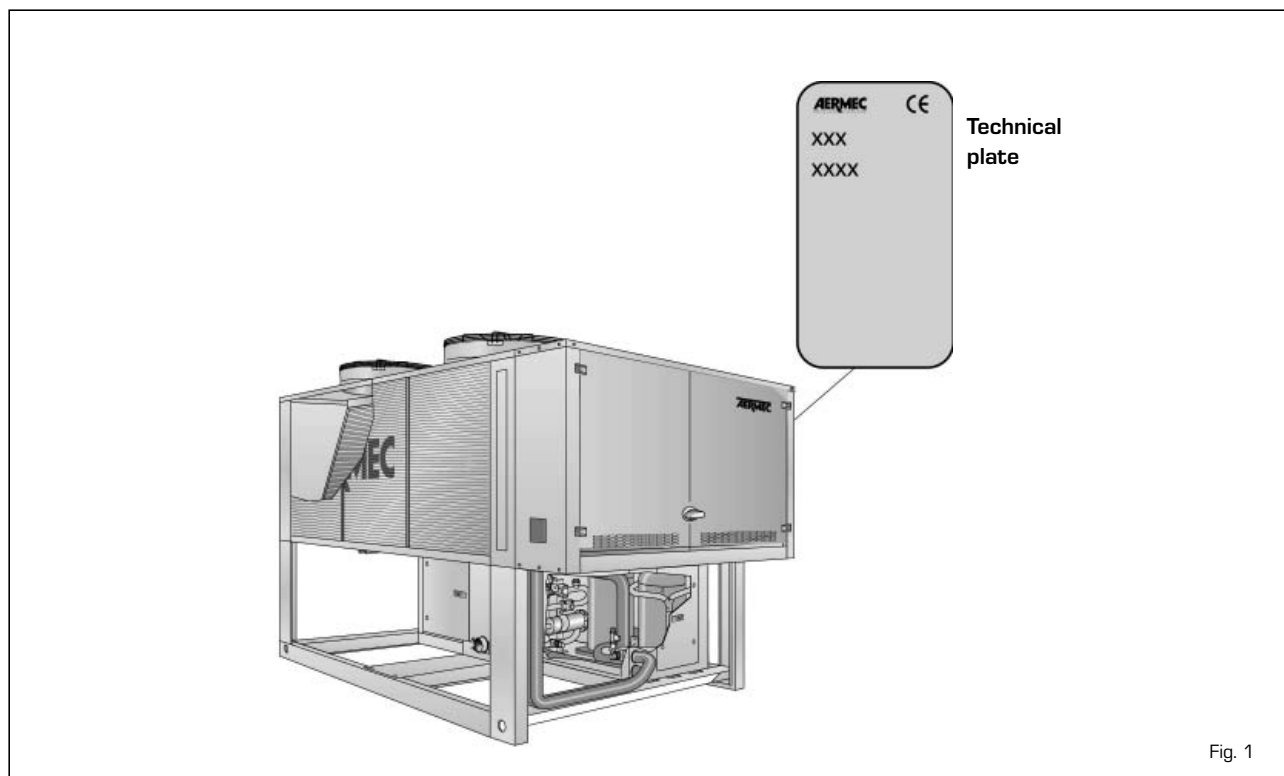

Fig. 1
- Check the electrical characteristics shown on the registration plate (fig.1) before making the electrical connections. Read the instructions in the specific section about electrical connections.